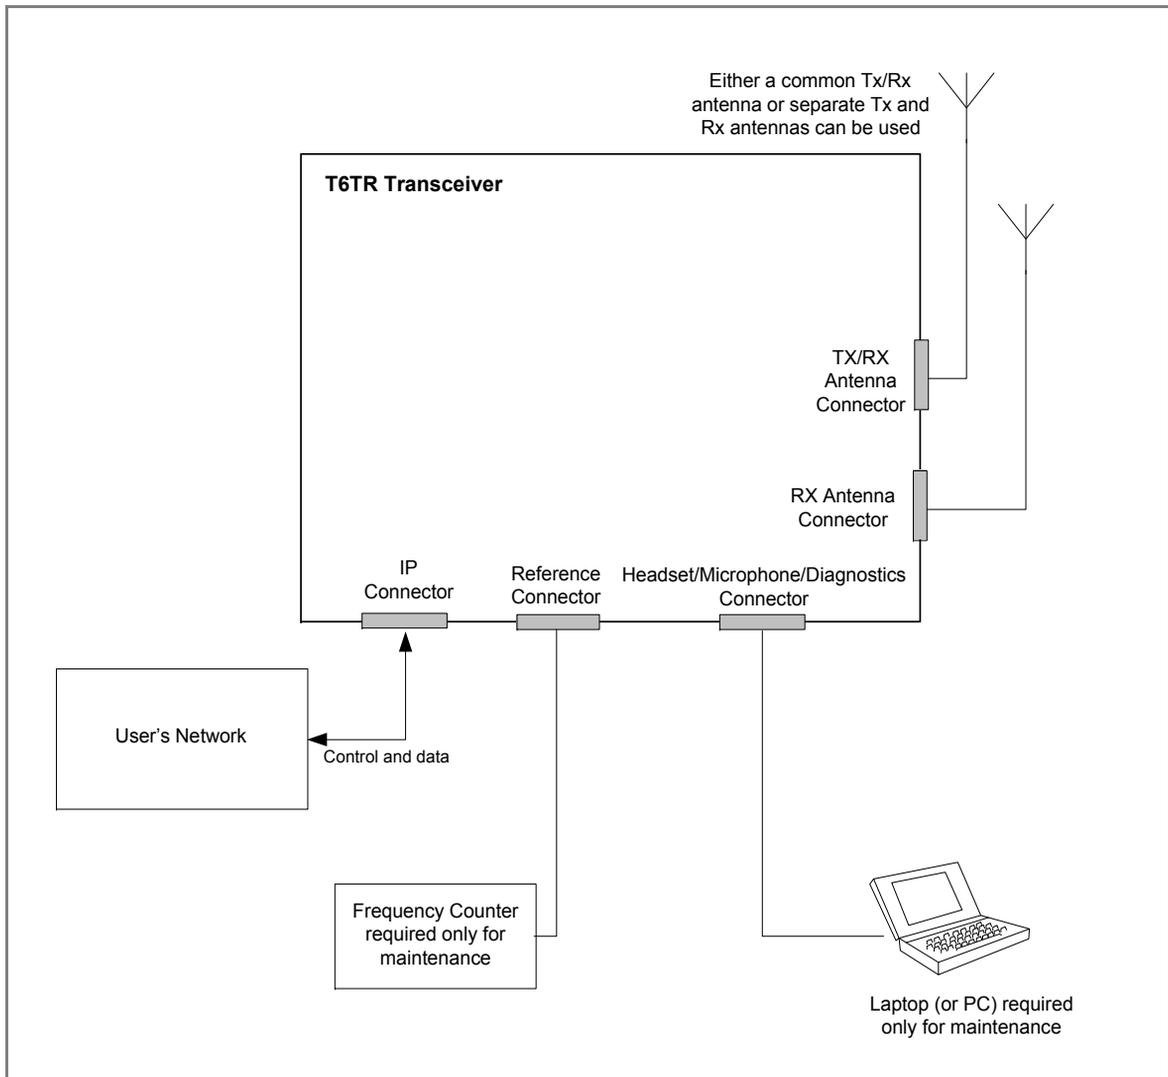

Fig 4-6 T6TR Transceiver Configured for Ethernet Operation
- T6TR transceiver configured for Ethernet operation (see Fig 4-6).